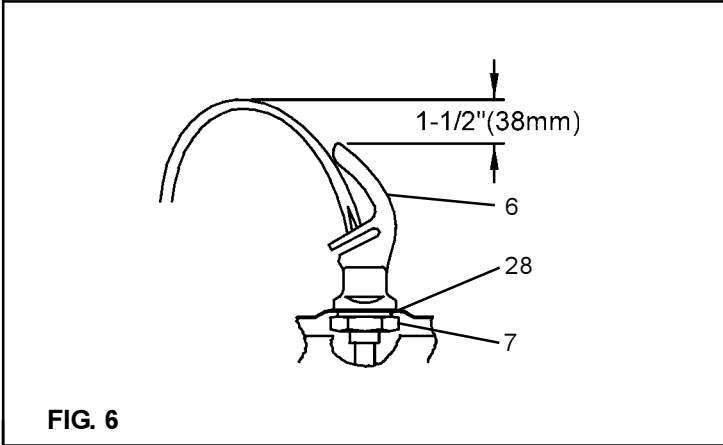

FIG. 6
4. **Install the fountain.** Remove access cover plate on underside of fountain and save the screws. Mount the fountain to the upper panel and the wall frame with (4) 5/16" x 3/4" (19mm) long bolts and nuts (provided). Tighten securely.
9. **Check stream height from bubbler.** Stream height is factory set at 45-50 PSI. If supply pressure varies greatly from this, remove items 3 & 4 and adjust the screw on regulator (Item 8). Clockwise adjustment will raise stream height and counter-clockwise will lower stream height. For best adjustment stream height should be approximately 1 1/2" (38mm) above the bubbler guard. (See Figure 6)
10. **Mount lower panel.** Loosen the (2) #10-24 x 5/8" (16mm) screws at frame bottom lip. Slide upper tongue of lower panel under lower edge of already installed upper panel. Tighten previously loosened screws securely.